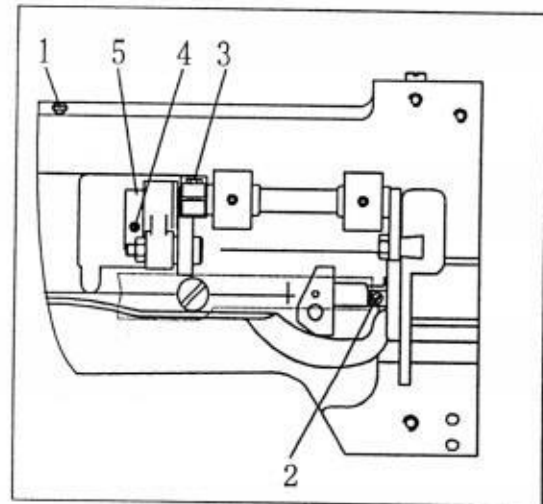

Fig. 10
(B) The inner clamp and the sewing needle should remain synchronous. As the sewing needle descends, so does the inner clamp. However, the inner clamp can be made slower if the sewn material is thick. When adjusting: loosen the set screw (4) on the lifting eccentric wheel of clamp (5) (Fig. 10). Turn the hand wheel towards the red arrow. Tighten the screw when the inner clamp and the sewing needle become synchronous.
(B) The lifting capacity of the outer clamp can also be adjusted. The height of the outer clamp needs adjusting owing to different kinds of material. Loosen the adjusting screw (1) (Fig. 10) and the guide screw (2) (Fig. 10). Move the outer clamp up and down to a proper height.
(C) Movement changes if the inner and outer clamps are not equal in position. In this case, the inner clamp needs adjusting. Put down the clamp and grasp the inner clamp. Loosen screw (3) (Fig. 10) and move it up and down to a proper height.
The clamp pressure is adjusted with the adjusting screw (1) (Fig. 10). Rotate the screw clockwise to increase pressure while counterclockwise to reduce pressure.